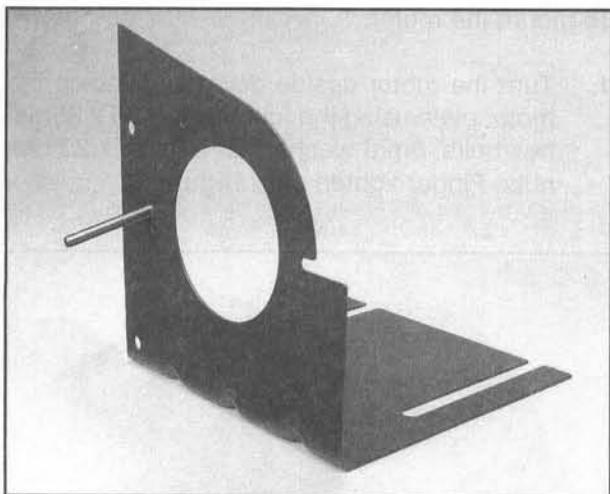

Figure 10.
2. Insert the $\frac{1}{4}$ "-20 x 2" hex bolt through the hole in the pulley guard bracket. **Figure 10.**